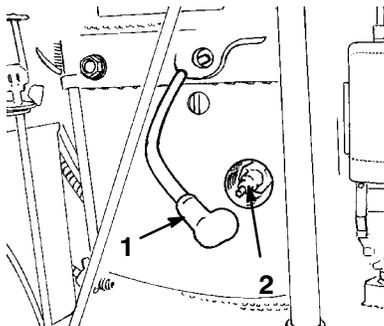

Figure 19
2. Pull the wire off of the spark plug (Fig. 19). Clean around the spark plug to prevent dirt from falling into the engine and potentially causing damage.
3. Push the wire(s) onto the spark plug(s) (Fig. 19).